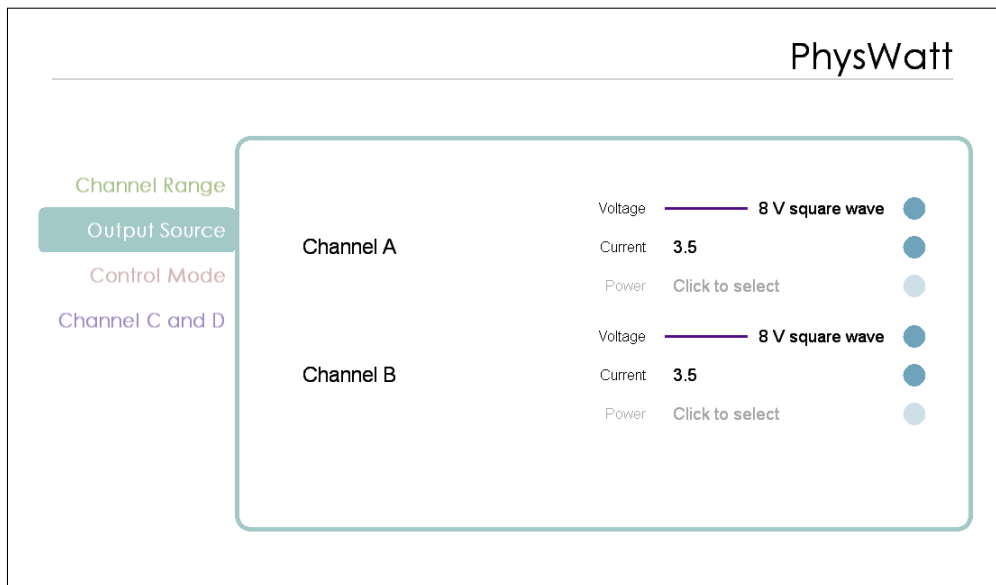

Figure 7: Supplying the square waves to Channel A and B of PhysWatt.
6. In the App, modify the PhysWatt channel outputs. Set the voltages of Channels A and B of the PhysWatt to the 8 V square wave (generated in Step 4). Also, set the current limit of both channels to 3.5 A as illustrated in Figure 7.